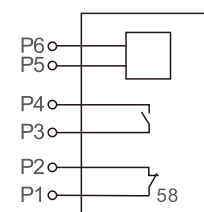

Fig1.
4.4.3 Leakage alarming module(RDM1L-125L,250L do not have it.) Specification: P5-P6 port for input power-source AC50/60Hz,230V or 400V.P1-P2,P3-P4 port for capacity is AC230V 5A, see Fig1
2.Circuit breaker with leakage alarming module. when the leakage alarming is happening, the leakage protection module would function after resetting the reset button of Module II.Fig1.